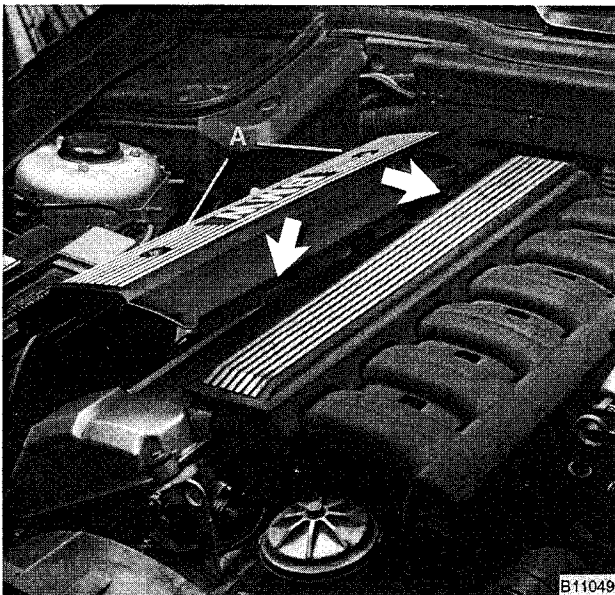

Fig. 31. Remove top engine covers by prying out caps and removing nuts (A). Note rubber gaskets at cover edge (arrows).
1. Remove top engine covers from engine. See Fig. 31.